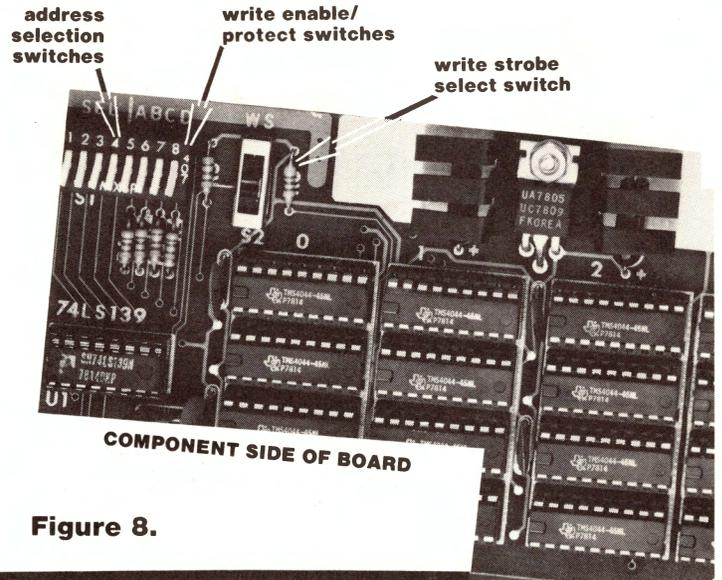

Figure 8.
- 3. Mount the slide switch in position as shown in figure 8 (note: orientation is not important).
5. Observe the 8 pole dip switch. The side with the number 1-8 faces the upper edge of the board (see figure 8). Mount the switch in place, and then solder. (Note: May be already soldered in place.)